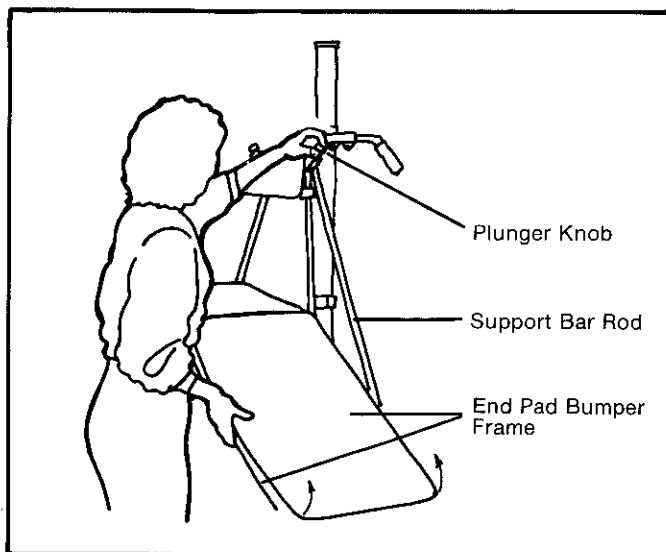

Figure 2-3
6. With hand supporting bumper frame end pad, Figure 2-3, pull plunger knob and push free end of hanger rod thru guide hole in bottom of guide. Release plunger knob when hanger rod has reached its first position stop hole. Support bar rod is secure in plunger rod, position #1. Repeat procedure for opposite installation of support bar rod into guide.